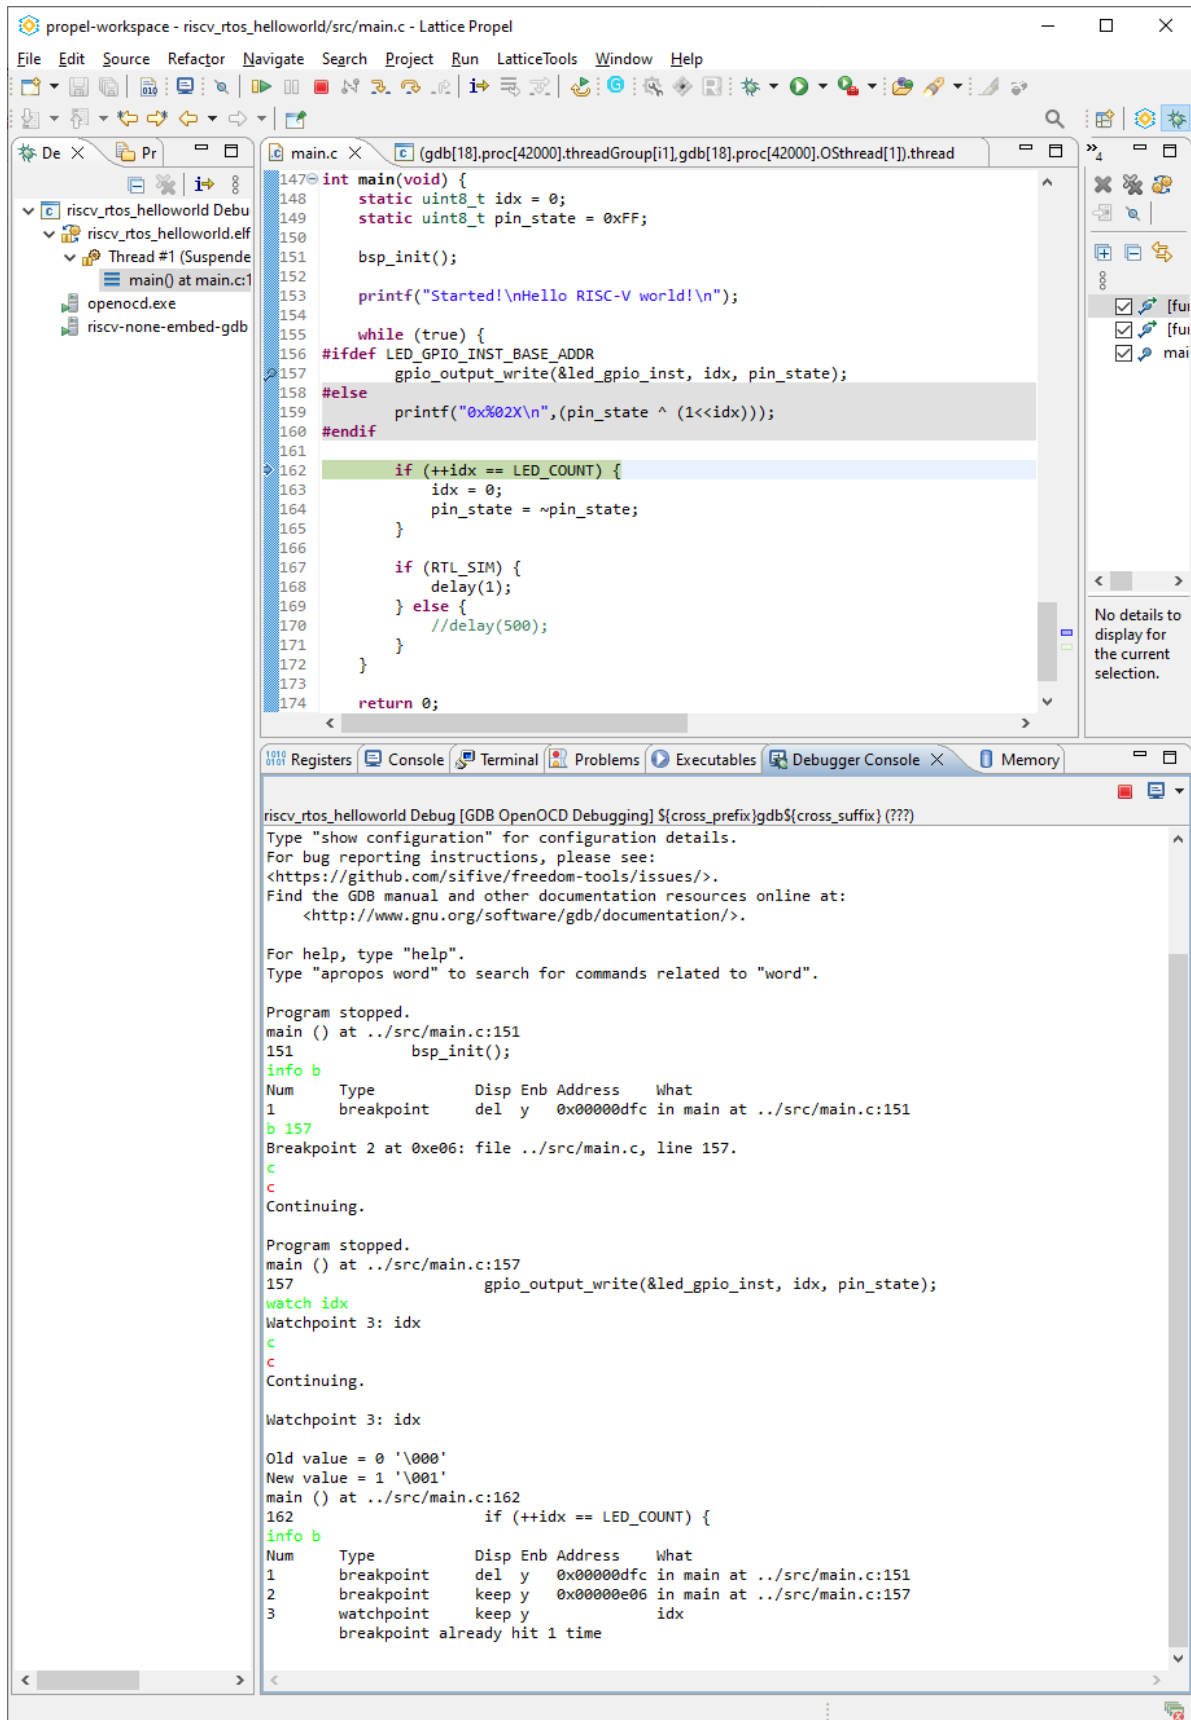

Figure H.2. GDB Console 2
1. Create a C/C++ project, build it, and execute on-chip debugging. A HelloWorld project is used as an example, as shown in Figure H.2.
Input the following commands in sequence in the GDB command-line window shown in Figure H.2.
In Figure H.2, line 170 originally includes billions of instruction cycles, and this line is commented out to avoid making the program run too slowly.